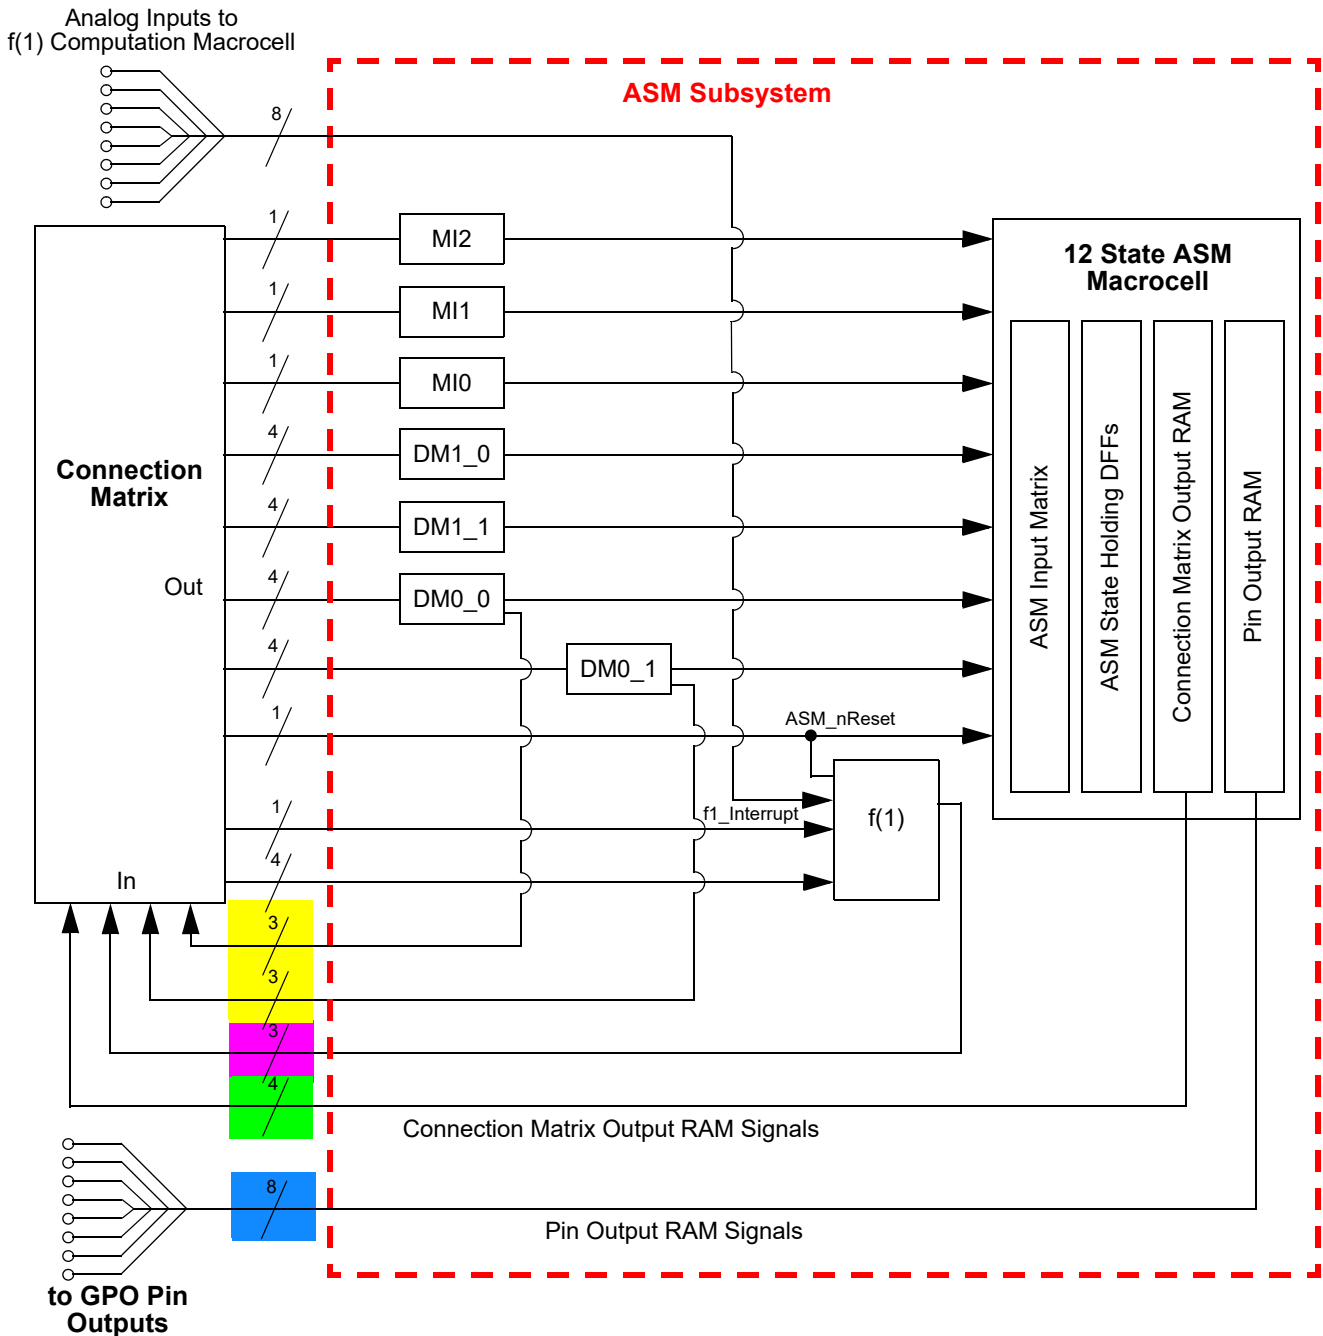

Figure 95: ASM Subsystem Input Signals
The ASM subsystem has a total of 21 output signal lines, as shown in Figure 95.
There are a total of 4 output signals from the ASM macrocell which go to the Connections Matrix inputs and from there can be routed to other internal macrocells or pins. These signals are shown in Figure 95, highlighted in green. The 4 outputs are user defined for each of the possible 12 states. The user selection for the output states is held in the Connection Matrix Output RAM.
There are a total of 8 output signals from the ASM macrocell which go directly to the 8 GPOs. These signals are shown in Figure 95, highlighted in blue. The 8 outputs are user defined for each of the possible 12 states. The user selection for the output states is held in the Pin Output RAM. Each of these GPOs has a single selection bit which defines the GPO input source as either the ASM Output RAM signal or the Connection Matrix signal.
Two of the Dynamic Memory macrocells, DM0\_0 and DM0\_1, can be used as either a resource for generating input signals for driving state transitions in the ASM macrocell, or to generate signals for use in other parts of the user design. When used to generate signals for purposes other than ASM state transitions, each of these macrocells has three output signals that go to the Connection Matrix, and from there can be routed to other internal macrocells or pins. Each of these macrocells has a total of 3 output signals of this type. These signals are shown in Figure 95, highlighted in yellow.
The f(1) Computation Macrocell has 3 output signals that go to the Connection Matrix, and from there can be routed to other internal macrocells or pins. These signals are shown in Figure 95, highlighted in pink.